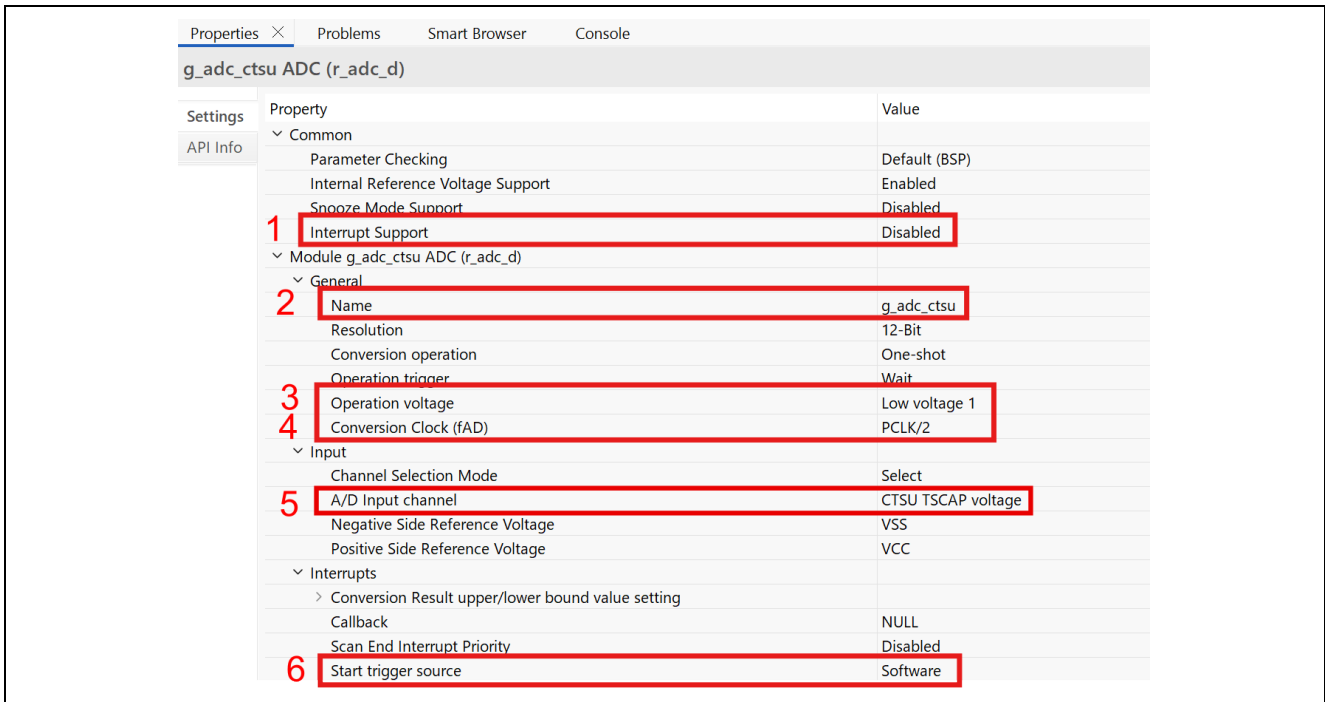

Figure 6-5 Configure “g_adc_ctsu_ivref” (RA0L1/LV mode)
8. If you are using an RA0L1 in LV mode, select “g_adc0 ADC” and click [Properties] at the lower left. Change the following settings as shown in Figure 6-5